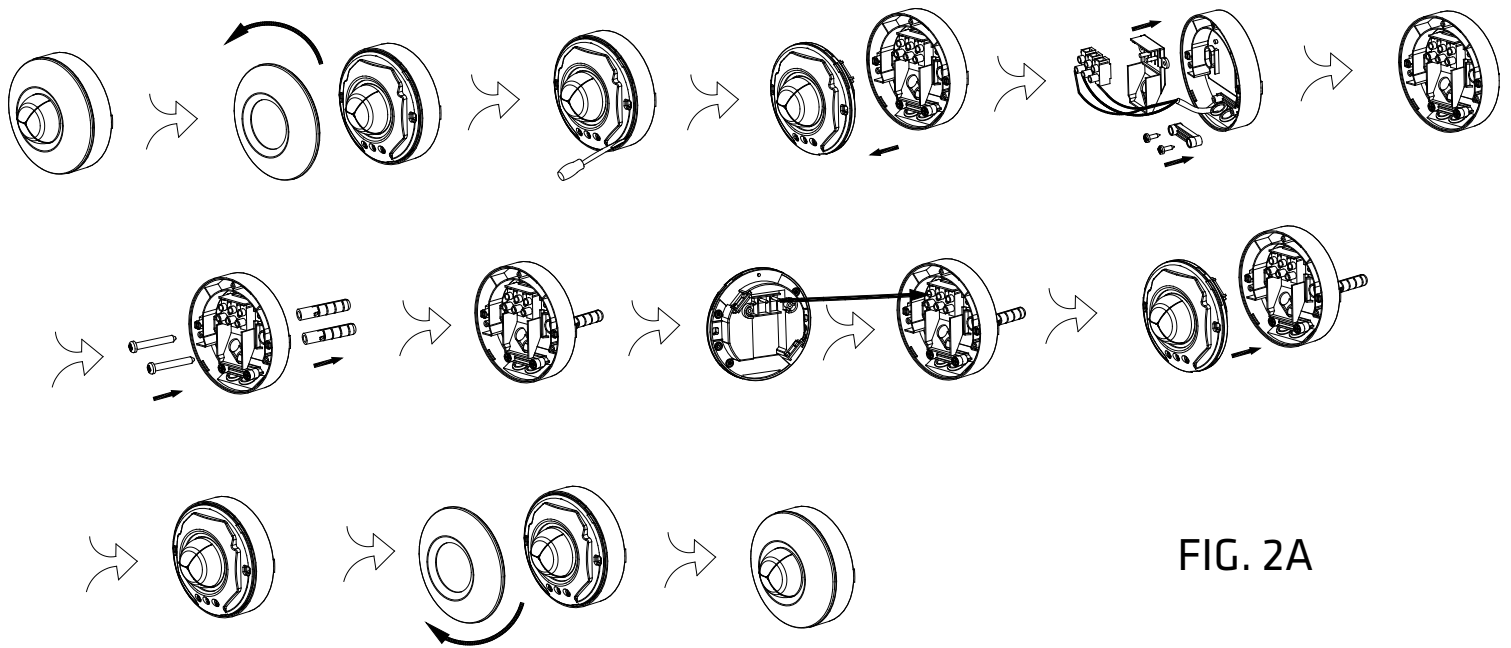
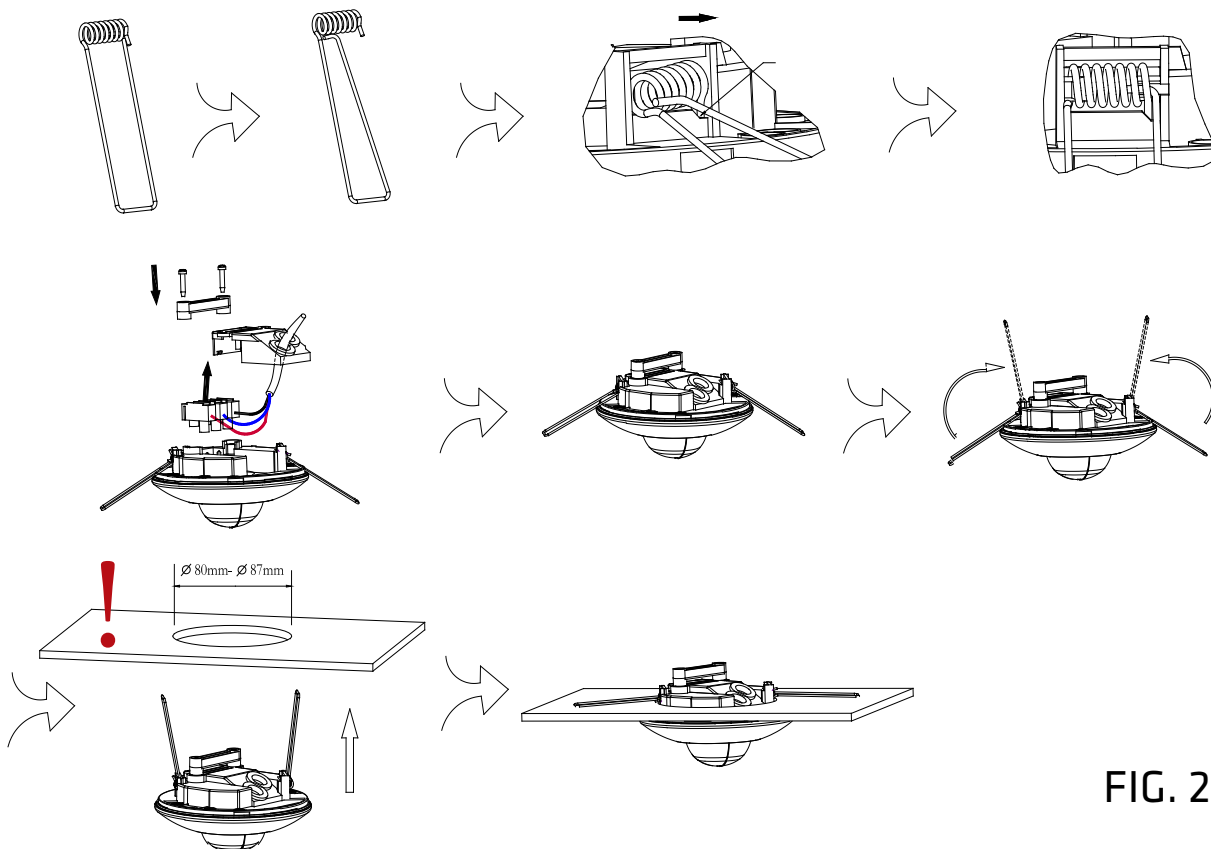

FIG. 2A
FIG. 2B
Before commencing any electrical work, ensure the mains supply is isolated by switching off and removing the relevant fuse. (See Figure 2A and Figure 2B)
A. Ceiling Mounting (Figure 2A)
B. Built-in Mounting (Figure 2B)
1. Open the spring to the position of Fig.2B